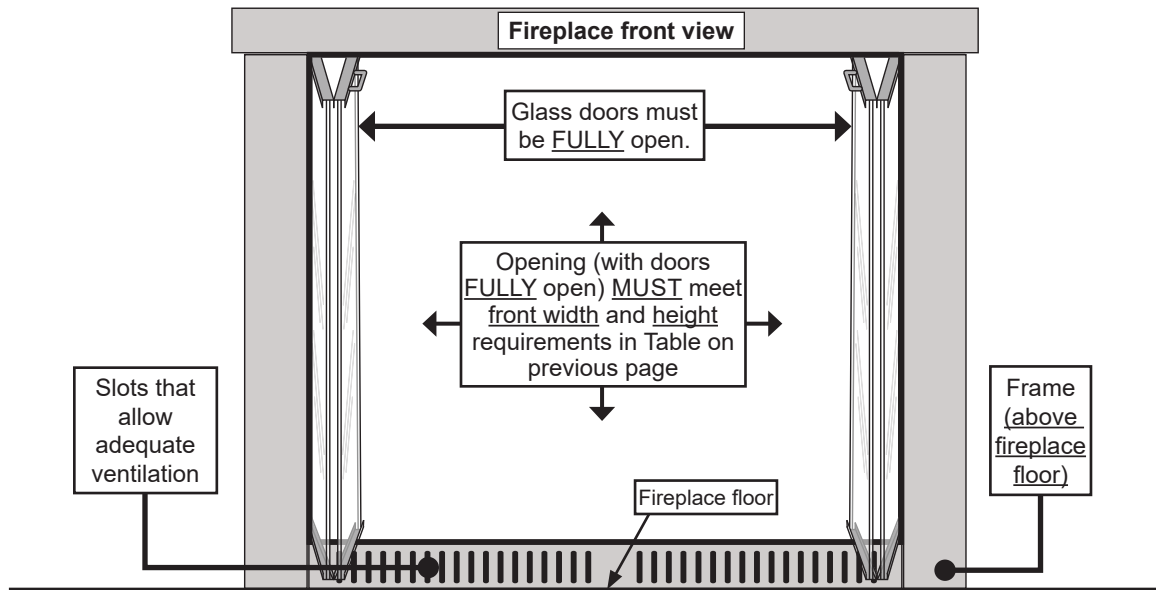

Fig. 7-1 Correct glass-doors frame setup, ventilation, and use (if applicable)
If this burner system is installed in a fireplace with glass doors, and the door frame bottom is greater than 3/4" in height, the frame MUST have slots (above the fireplace floor) that allow adequate ventilation. This prevents airflow obstruction (to the fireplace floor). See Fig. 7-1.
**Important:** The opening (with doors fully open) MUST meet the minimum fireplace size front width and height requirements. See the Table on the previous page and Fig. 7-1.